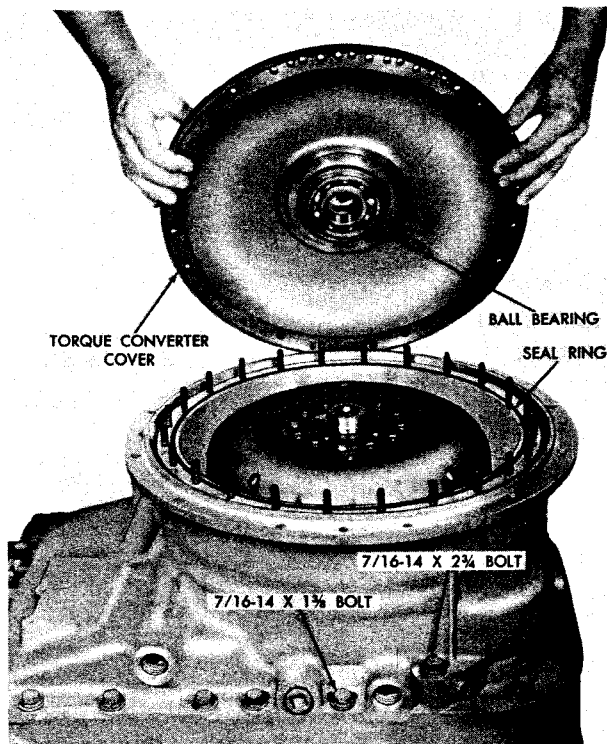

Fig. VII-8. Installing torque converter cover
properly installed in its groove in the converter pump (fig. VII-8).
(2) Install the converter cover and ball bearing on the converter pump (fig. VII-8).